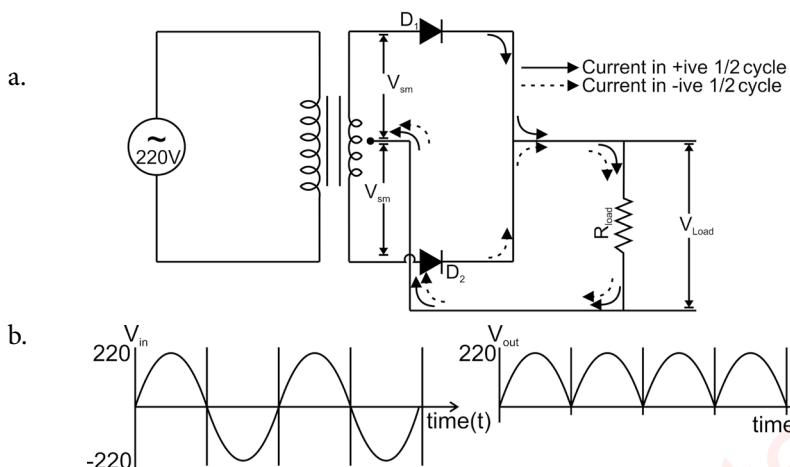

Fig 6.11 Full wave rectifier
In a Half wave rectifier, only one-half cycle is used to convert AC signal to DC signal. If we use a center tapped step down transformer and two diodes then a full wave of AC can be rectified. In a full wave rectifier, the AC signal is given to a circuit with two diodes and one load resistance (R). In the first Half cycle, the first diode is in forward bias and the second diode is in reverse bias. The situation will be reversed in next half cycle. The voltage will appear across resistance R in both half cycles. Fig 6.11 (a)Shows the circuit of full wave rectifiers. The input and out waveform is also displayed in Fig 6.11(b). The voltage appearing on the R is variable DC voltage and further given to filter circuits to convert variable DC into constant DC.